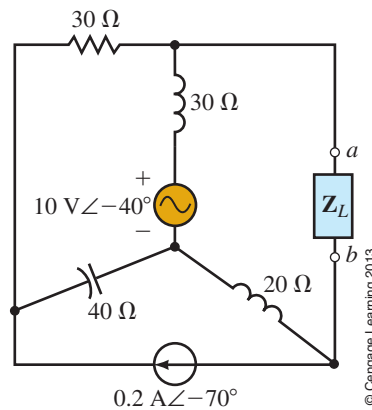

FIGURE 20–86
45. What load impedance is required for the circuit of Figure 20–71 to ensure that the load receives maximum power from the circuit?